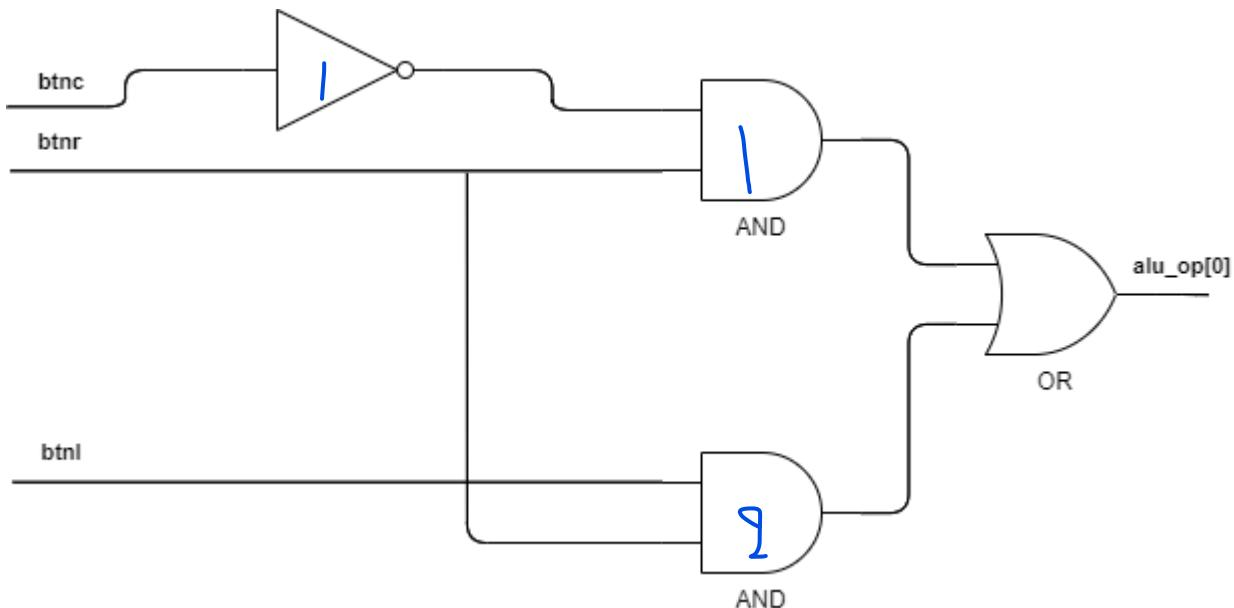

Fig. 2: Production of **alu_op[0]** via **btnc**, **btnc**, **btnc**.
- Create a new signal for '**alu_op**' as well as the logic for this signal as discussed below (Figures 2 – 5).
The signal '**alu_op**' determines which ALU operation will be performed. You will determine which operation to perform based on the value of the three keys:**btnc**, **btnc** and **btnc**. You should create the combinational circuit of Figures 2 – 5 that produces the appropriate signal '**alu_op**' based on the value of these three keys. Implement the circuit **calc_enc.vin** **structural verilog** and connect it to the calculator circuit **calc.v**.